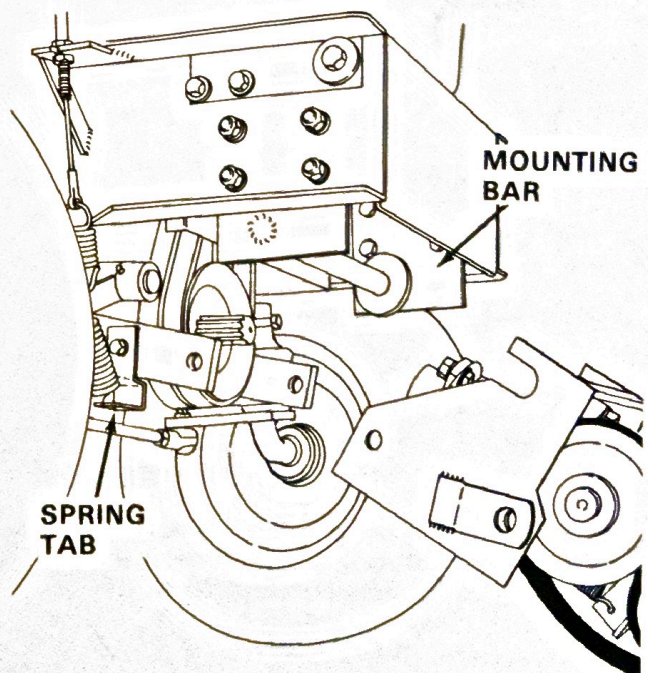

FIGURE 8
7. Remove the mounting bar. See figure 8.